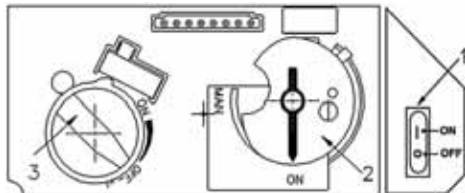
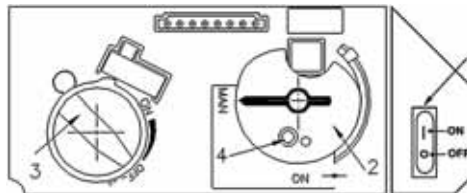
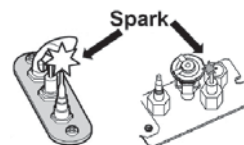

Fig 1
Fig 2
Fig 3
2. SET ON/OFF SWITCH (1) TO "OFF" POSITION.
- Wait five (5) minutes to clear out any gas, then smell for gas, including near the floor. If you smell gas, STOP! Follow "B" in the safety information above on this label. If you don't smell gas, go to the next step.
3. AUTOMATIC IGNITION (fig. 1): Locate the pilot (fig. 3.) inside of firebox at Left Hand side.
- ON/OFF switch (1) in ON position, MAN-knob (2) in ON position; set Flame Adjustment knob (3) to lowest setting (⌚);
- When the pilot is lit, the Flame Adjustment knob (3) will automatically rotate to the highest setting.
4. MANUAL IGNITION (fig. 2): With the window off, locate the pilot (fig. 3)
- ON/OFF switch (1) in ON position, MAN-knob (2) in MAN position;
- Set Flame Adjustment knob (3) to the lowest setting (⌚);
- Push down the metallic core (4) with a pen or similar instrument; this will establish the pilot gas flow;
- Light gas at the pilot (5) with a match;
- Continue holding down metal core (4) for about 10 seconds; after release, pilot should remain lit;
- If the pilot will not stay lit after several tries, turn the gas control knob (3) to "OFF" (⌚) and call your local service technician or gas supplier.